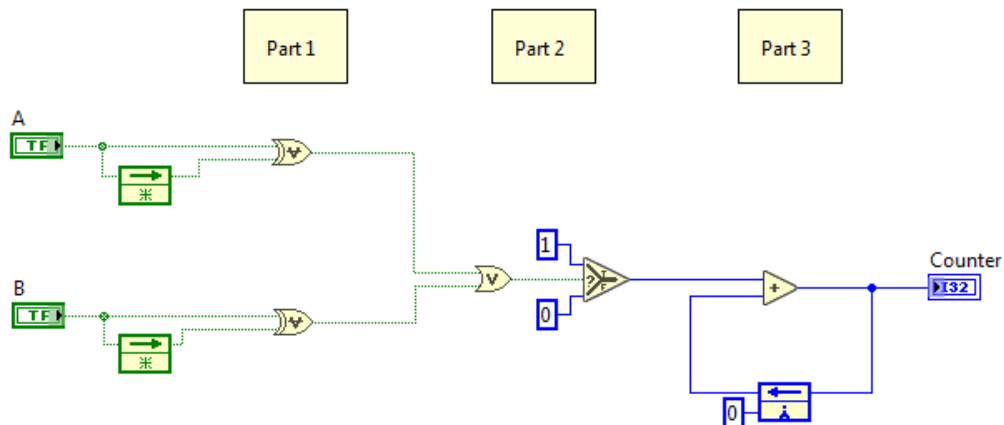

Figure 2.1: A quadrature decoder to generate counts
In your system's explorer, browse to the your project folder. Under the folders Subsystems | Investigation Controllers | Reading Encoders, open Reading Encoders.vi. Browse to the block diagram, and open Unidirectional Quadrature Decoder.vi. Complete the block diagram according to the model shown in Figure 2.1.
As the motor spins, A and B receive pulsing waveforms with 'high (1)' and 'low (0)' signals. The first step involves detecting a rise or drop, which corresponds to a count. This is done in Part 1 of Figure 2.1 using the XOR function block. Part 2 adds 1 to the counter if it detects a rise or drop, and 0 otherwise. Part 3 updates the counter value. Save and close this VI. Reading Encoders.vi generates a sample signal for A and B, and displays the encoder counts on a graph.